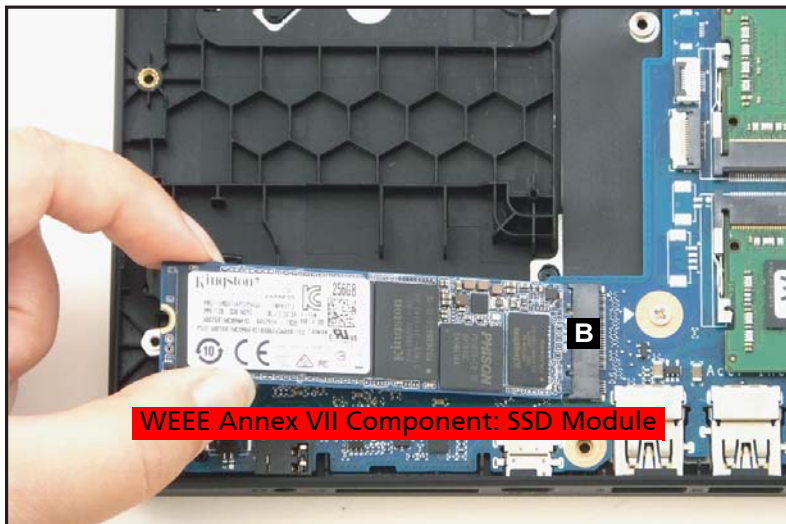

Figure 1-18. SSD Module Removal
2. Remove the SSD module from the mainboard connector (B) (Figure 1-18).